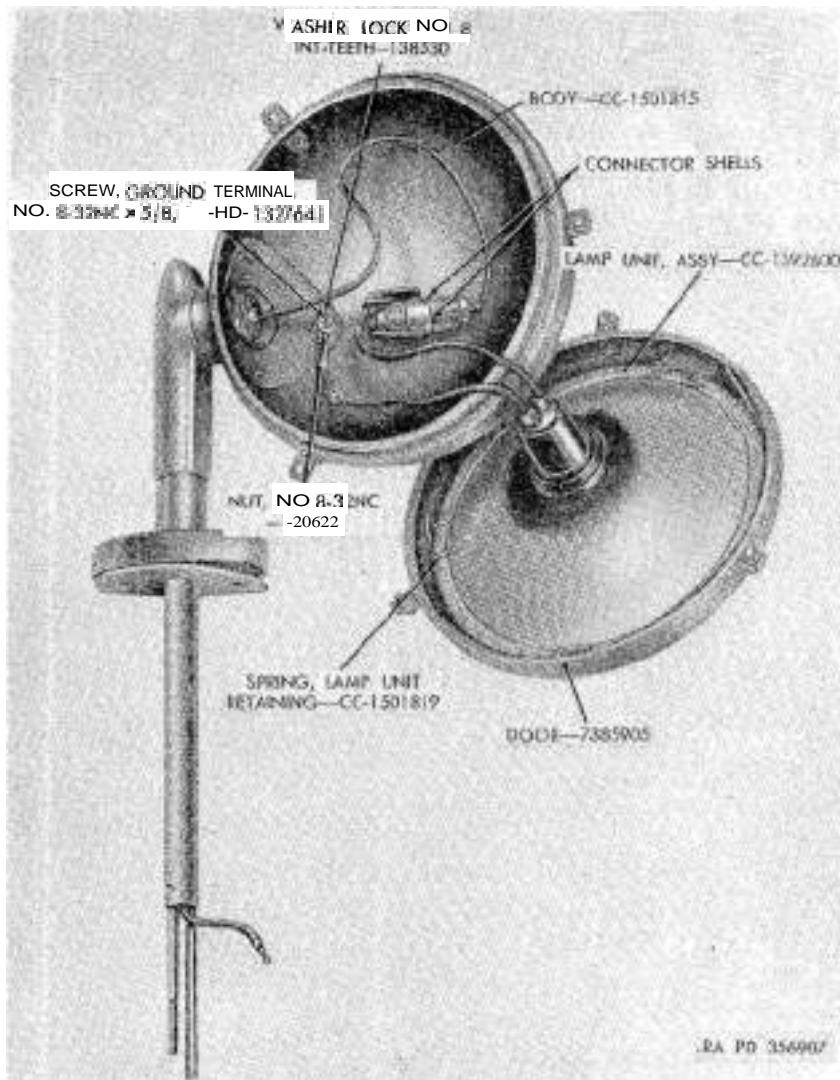
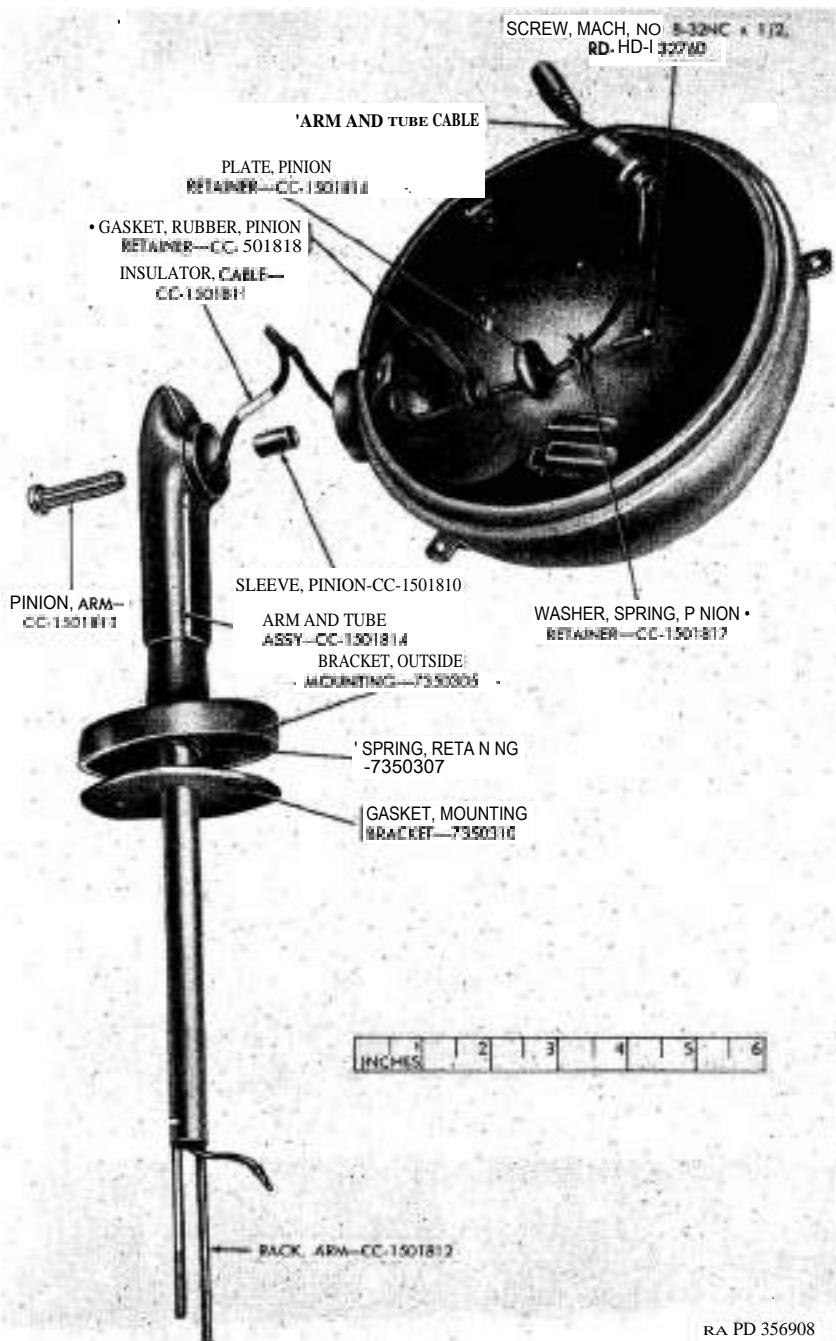

Figure 235. Body, lamp unit assembly, and door.
Figure 236. Arm and tube assembly—removed.
a. *Remove Door and Lamp Unit Assembly from Spot Light Assembly* (fig. 235).
- (1) Loosen three machine screws and separate door and lamp unit assembly as an assembly from body.
- (2) Remove connector shells from clip in body. Separate connector shells and connector.
- (3) Remove nut, lock washer, and ground terminal screw. This will separate lamp unit ground cable from body.
- (4) Remove lamp unit retaining springs and separate lamp unit assembly from door.
b. *Remove Mounting Bracket Gasket, Retaining Spring, and Outside Mounting Bracket (Ambulance M43)* (fig. 236). Remove mounting bracket gasket, retaining spring, and outside mounting bracket from arm and tube assembly.
c. *Remove Arm and Tube Assembly from Body* (fig. 236).
- (1) Remove machine screw and pinion retainer spring washer.
- (2) Push arm pinion from body and arm and tube assembly. This will separate body (fig. 235) from arm and tube assembly. Withdraw the two arm racks from arm and tube assembly. Remove pinion sleeve.
- (3) Remove arm and tube cable from arm and tube assembly.
d. Remove Arm and Tube Cable and Related Parts from Body (fig. 236).
- (1) Inspect handle for cracks or other visual damage. Handle must be replaced if it is not in good condition. Inspect handle mounting screw for distortion or damaged threads. Replace screw if either of these conditions exist.
- (2) Inspect arm pinion (fig. 236) and handle pinion for worn teeth, distortion, or damaged threads. Replace pinions if any of these conditions exist.
- (3) Inspect handle pinion bearing, for cracks, worn splines, or other visual damage. Replace bearing if any unsatisfactory conditions exist.
- (4) Inspect spring washer for cracks or other visual damage. Replace washer if it is not in good condition.
- (3) Inspect mounting bracket gasket (fig. 236) for deterioration or other visual damage. Replace gasket if it is not in good condition.
- (4) Inspect retaining spring (fig. 236) for cracks or distortion. Replace spring if either of these conditions exist.
- (5) Inspect outside mounting bracket (*fig. 236*) for broken stop, cracks, or other visual damage. Replace bracket if it is not in good condition.
- (1) Inspect spot light mounting tube assembly for broken welds, cracks, corrosion, damaged threads, distortion, or other visual defects. Replace spot light mounting tube assembly if it is not in good condition.
- (2) Inspect adjusting clamp for distortion, corrosion, or other visual damage. Replace clamp if it is not in good condition.
- (3) Inspect switch cable rubber grommet (early production trucks) for deterioration or other visual damage. Replace grommet if it is not in good condition.
e. Inspect Door, Lamp Unit Assembly, Lamp Unit Retaining Springs, and body (fig. 235).
- (1) Inspect door for worn or damaged screws, cracks, corrosion, distortion, or other visual damage. Replace door if any unsatisfactory conditions exist.
- (2) Connect lamp unit assembly to a source of current and determine if filament is in good condition. Replace lamp unit assembly if not satisfactory. Inspect lamp unit assembly for evidence of moisture on reflector. Replace lamp unit assembly if there is evidence of moisture on reflector.
- (3) Inspect lamp unit retaining springs for breakage or distortion. Replace springs if not in good condition.
- (4) Inspect body for loose rivets, cracks, distortion, corrosion, or other visual defects. Replace body if not in good condition.
f. Inspect Arm and Tube Assembly, Arm Racks, Arm and Tube Cable, and Related Parts (fig. 236).
- (1) Inspect arm and tube assembly for cracks, distortion, corrosion, or other visual defects. Replace arm and tube assembly if not in good condition.
- (2) Inspect arm racks for worn teeth, distortion, or cracks. Replace racks if any of these conditions exist.
- (3) Inspect arm and tube cable and cable insulator for deteriorated insulation or other visual damage. Replace cable and/or insulator if not in good condition (pars. 336d and 338a).